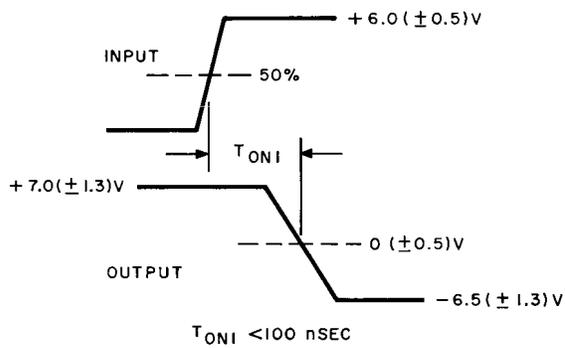

Fig. 49A — EIA Interface Test
- (1) Rotate the switch through positions 1 to 5. The input-output waveforms shall be as specified in Fig. 49A.